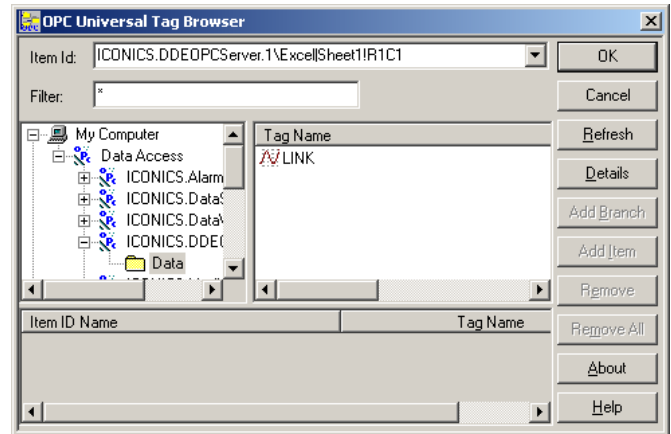

Fig.1 OPC Tag Browser shows available DDE link.
5. Click on **OPC Tags...** and use the tag browser to browse to your DDE OPC Server as shown in figure 1.